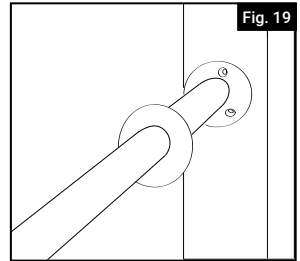

Fig. 19
3. Slide trim cover over lineal (Fig. 19).